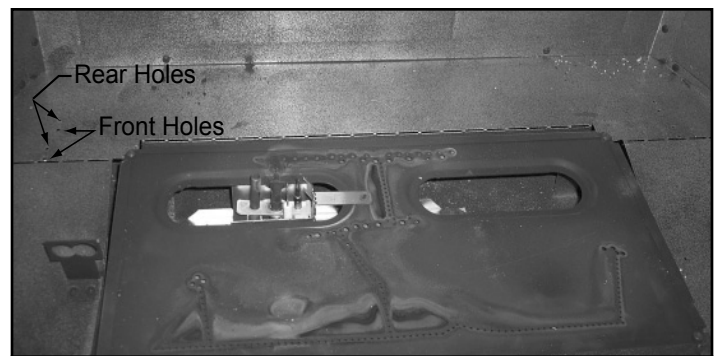

Figure 1.10 Reinstall Rear Log Location
- (CD Series only) Replace the log set. The rear log must be installed using the back set of holes are used when converting to propane. See Figure 1.10.